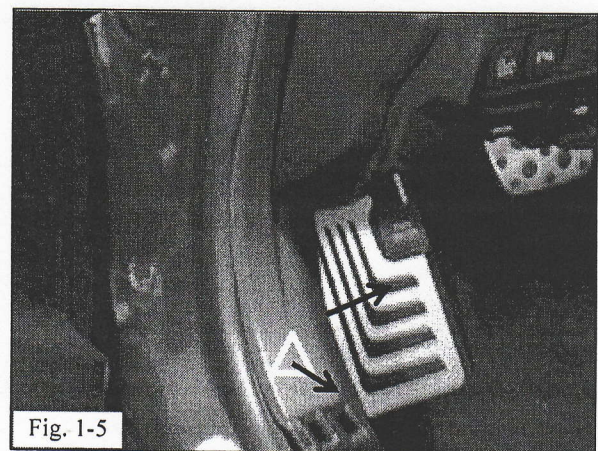

Fig. 1-5
- (i) Pull to disengage the four (4) clips while holding the weather strip at the clip locations to remove the kick panel trim piece from the vehicle (Fig. 1-5 and Fig. 1-6).